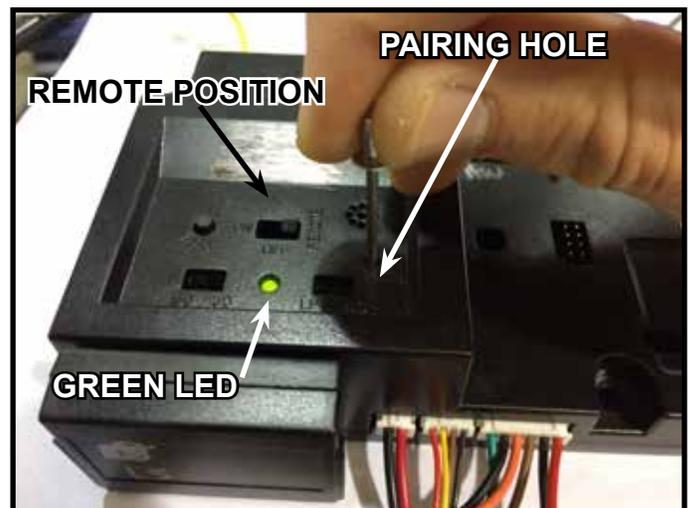

Figure 4. Pairing IFT-ECM and IFT-RC150
3. Locate the pairing hole on the IFT-ECM. See Figure 4. Using a paper clip or similar item, press and release the pairing button. The IFT-ECM will “beep” once and a green LED will blink for 14 seconds.